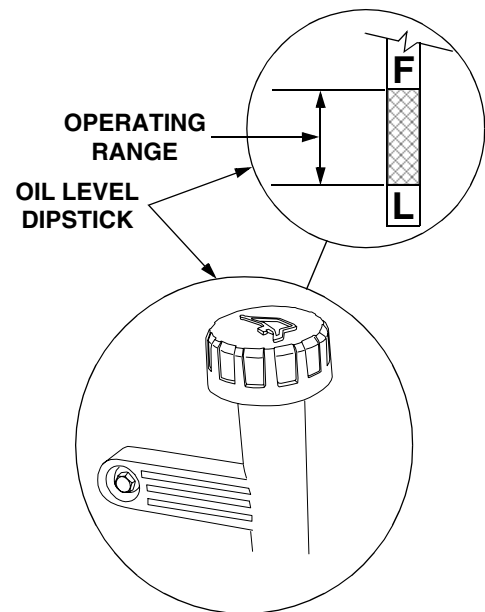

Figure 19
Regularly checking and maintaining the engine oil level in the crankcase cannot be overemphasized. Close monitoring of the oil level during the first 10 hours of operation is especially important. Referring to Figure 19, check the oil level **BEFORE EACH USE** as follows:
3. Remove the oil fill cap/dipstick from the oil fill tube and **SLOWLY** pour oil into the oil fill tube. Fill the crankcase until the oil level reaches the “FULL” mark on the dipstick (Refer to Figure 19).
3. Remove the oil fill cap/dipstick from the oil fill tube and SLOWLY pour oil into the fill tube. The oil capacity is approximately 4 pints. Fill the crankcase until the oil level reaches the "FULL" mark on the dipstick (Refer to Figure 19).